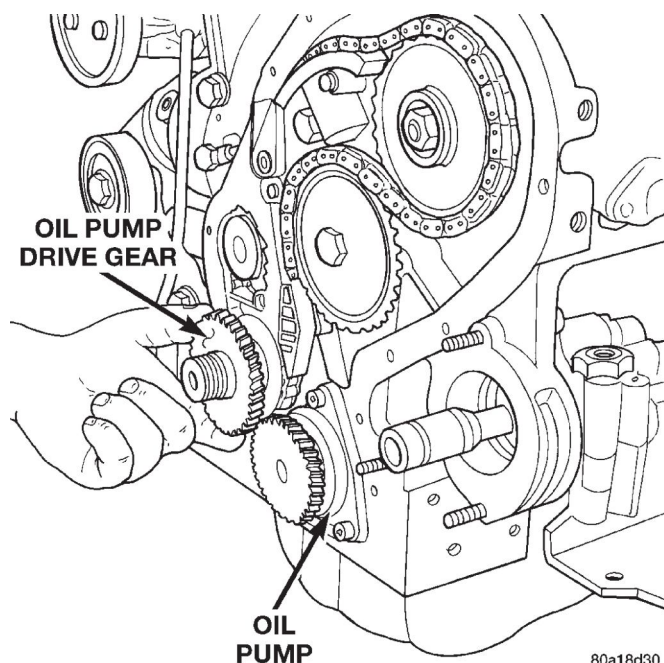

Fig. 65 Oil Pump Drive Gear
- (10) Remove oil pump drive gear on crankshaft (Fig. 65).